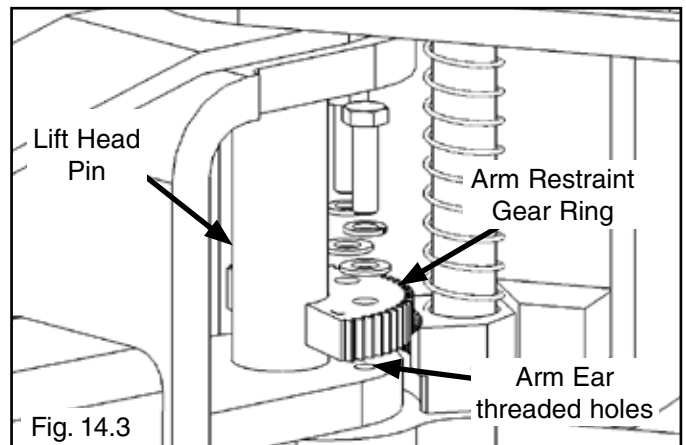

Fig. 14.3
4. Place each Gear Ring against the Lift Head Pin and align the holes in the Gear Ring with the threaded holes in the Arm Ears. Make sure that the teeth on the Gear Ring mesh smoothly with the teeth on the gears of the Lift Head. (See Fig. 14.3)